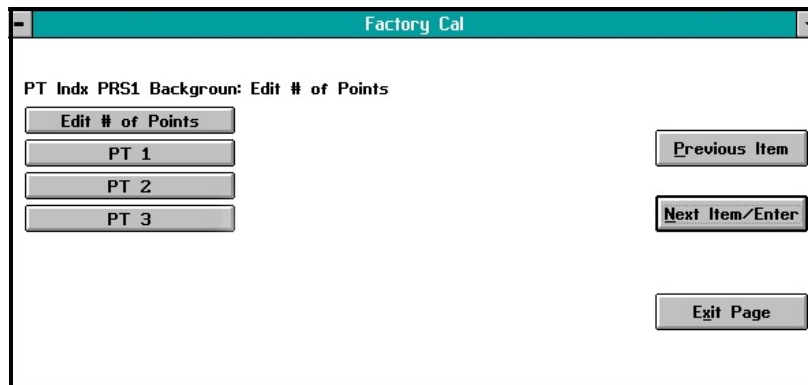
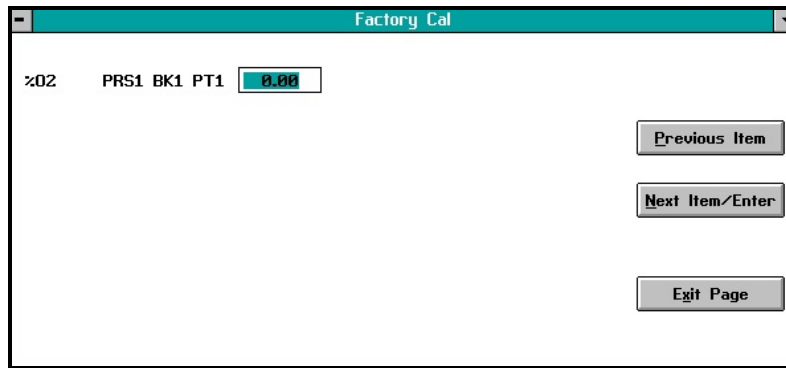

Figure 47: PRS1 BKGD Points Window
Figure 49: %O2 Data Window
In the window shown in Figure 45 on page 50, click on the *Background Label 1* button (the actual text on this button will correspond to the label you entered in the previous section) to open a window similar to Figure 47 below.
To begin entering your data, click on the *PT 1* button in *Figure 47* above to open a window similar to *Figure 49* below.
By using the window in *Figure 49 on page 51* and clicking on the Next Item/Enter button after each entry, you will be able to enter a value for each of the following parameters:
After entering the last parameter, you will be returned to the screen shown in *Figure 49 on page 51*. Finish the programming of this section by completing the following steps:
1. Repeat the procedure beginning at *Figure 47 on page 51* until you have entered data for each parameter at all of the points listed.